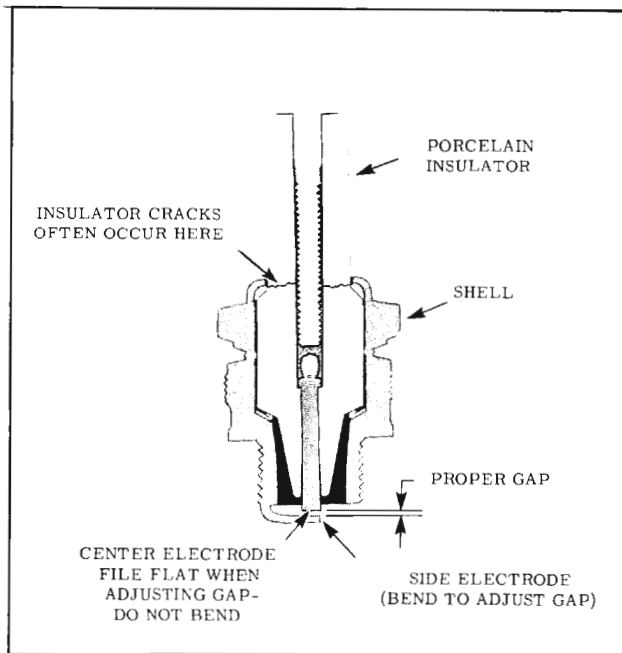

Fig. 14-112 Spark Plug Construction
3. All plugs should be checked for cracks in the porcelain. These cracks are not always visible because they may be hidden by the steel body. (Fig. 14-112) Use a spark plug tester to test plugs.